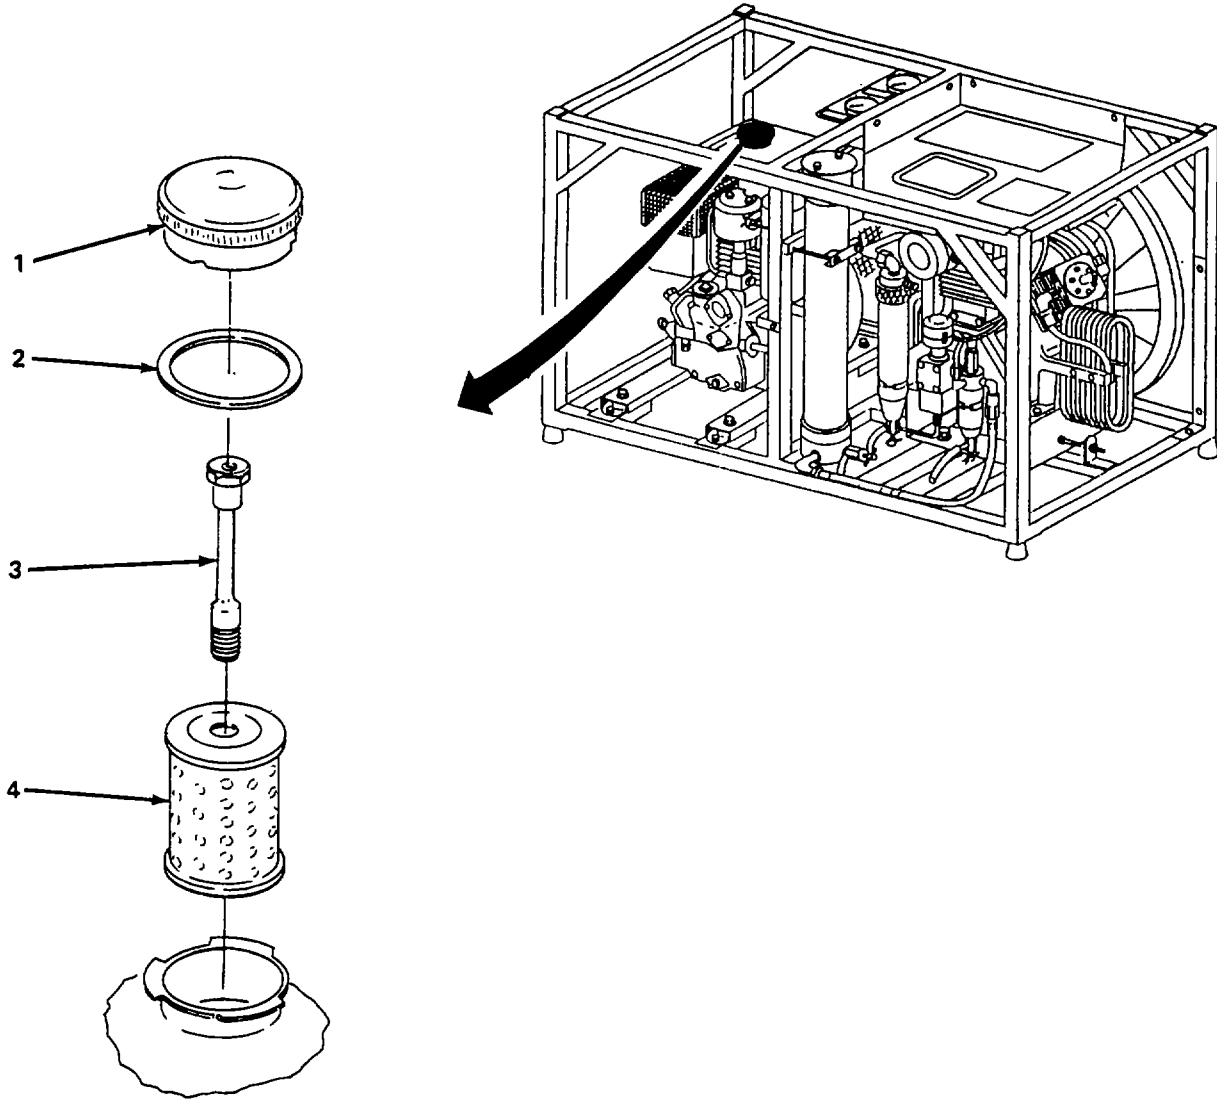

Figure 4-21. Fuel Tank Filter, Replace.
- (5) *Fuel tank filter.* (figure 4-21)
- (a) Remove fuel cap (1) and gasket (2).
- (b) Remove bolt (3) and filter (4).
- (c) Install new filter (4) and secure with bolt (3).
- (d) Install fuel cap (1) and gasket (2).